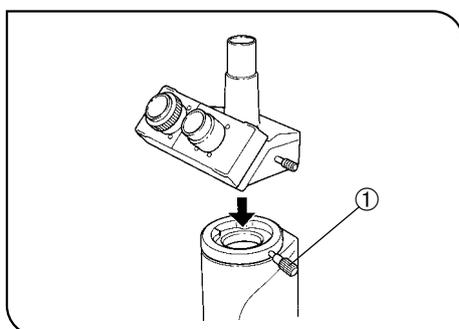

Fig. 10
**7 Mounting the Observation Tube (CK40 Only) (Fig. 10 & 11)**
1. Loosen the observation tube clamping knob ①. (Fig. 10)
2. Insert the circular dovetail at the bottom of the observation tube into the mount opening on the microscope body. Adjust the observation tube until the binocular eyepieces face directly to the front, and then tighten the clamping thumbscrew. (Fig. 10)